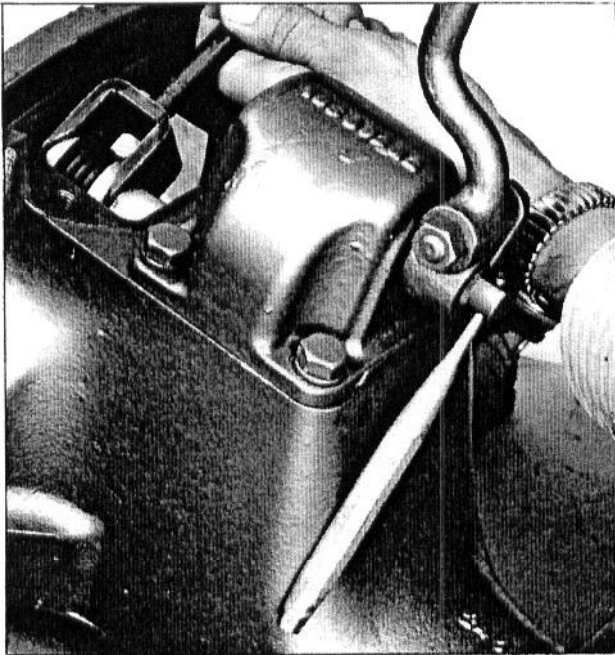

Fig. 20 - Compressing Differential Lock Engaging Spring
- b. Move differential lock arm to the engaged position and hold there. Note punch used in Fig. 20.
- c. Tap tool MFN 684A over the spring caps and spring as shown in Fig. 20.